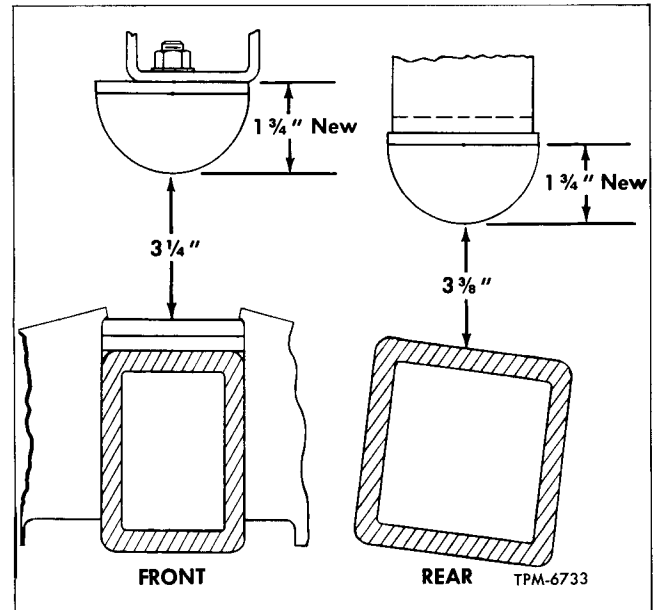

Figure 4—Normal Ride Height Clearance
Normal Ride Height. Ride height measurements are taken between axle bumpers and top of axle housing as shown in figure 4. Clearance between bumper and axle at front is 3-1/4", and at rear 3-3/8".
NOTE: Normal ride height clearance dimensions given are based on the thickness of new axle bumpers (fig. 4). If coach is left standing for extended periods without air pressure in the air suspension system, the weight of the body on the axle bumpers may cause the bumpers to take a permanent set in a flattened condition. Original thickness of new bumpers is shown in figure 4. If bumpers are flattened to less than the dimension shown, an equal amount should be added to the clearance specified to maintain normal ride height.
4. Connect upper radius rod (4) and lateral radius rod to anchor brackets. Refer to "Radius Rods" later in this section. Do not tighten cap screws or mounting bolt nut.
6. Install lower radius rods (8). Refer to "Radius Rods" later in this section. Do not tighten cap screws or mounting bolt nuts.
8. Position each end of axle by raising or lowering jacks to provide a clearance of 3-1/4" (normal ride height) between axle bumper and contact surface on suspension support (fig. 4). Refer to "NOTE" under "Ride Height Check and Adjustment"
9. With axle still in normal ride height position (step 8 above), connect height control valve link (5) to height control valve.
14. Raise coach and remove blocks from under body. Lower vehicle to floor and remove jacks. Build up air pressure in system to normal operating pressure. Wait a few minutes for air to flow into suspension system, then check clearance between axle bumpers and suspension supports (fig. 4). If clearance is appreciably more or less than 3-1/4", adjust overtravel lever on height control valve as necessary to obtain this dimension. Refer to "Ride Height Check and Adjustment" earlier in this section. Make sure lever adjusting nut is tight when adjustment is completed.